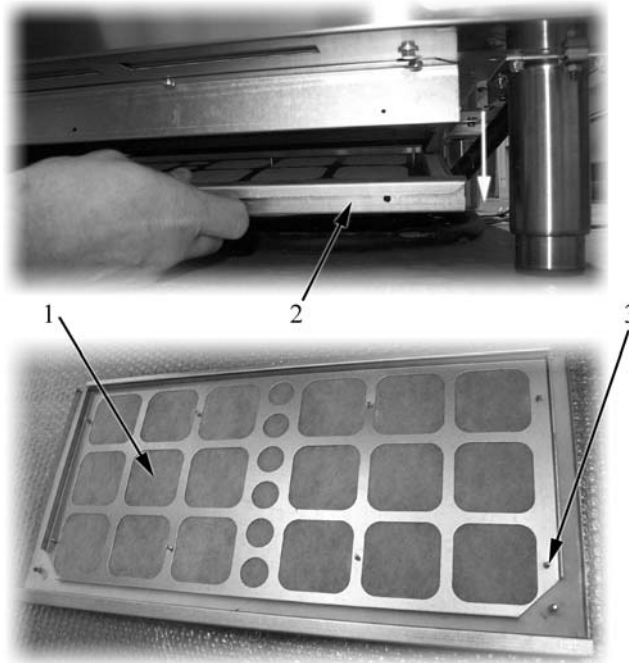

Fig. 6a
- Pull downward the filter fixing frame (pos. 2 of Fig. 6a);
When the filter is very dirty, replace it by unscrewing the fixing screws (pos. 3 of Fig. 6a).